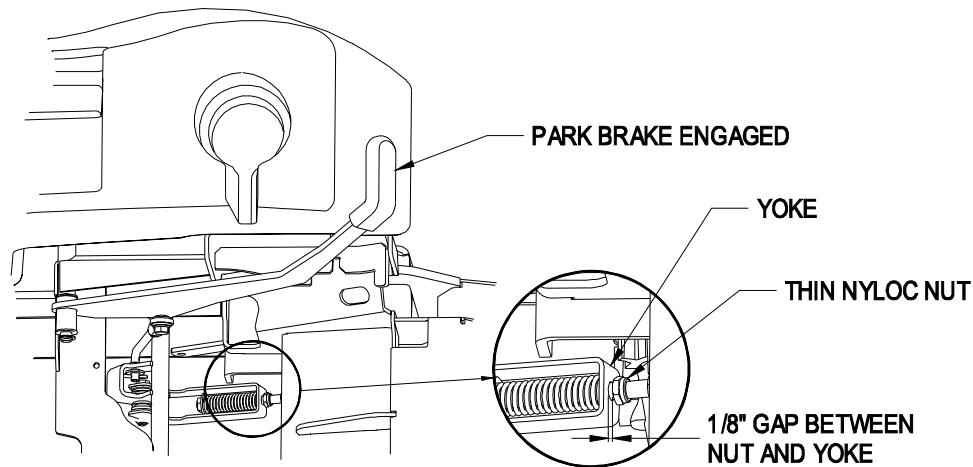

FIGURE 7
- d) Locate the park brake spring assembly. See Figure 7. There should be a gap of 1/8" (3 mm) between the yoke and thin nyloc nut on the brake bolt. If necessary, rotate the thin nyloc nut to obtain the 1/8" gap.